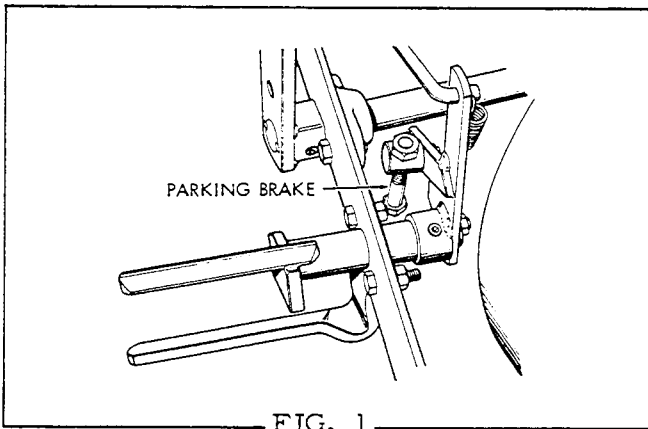

FIG. 1
- (2) Front Spindles - (Fig. 1)
Depress foot pedal until brake holds securely; flip capscrew toward rear for park. (See Fig. 1). Adjust length of screw to permit screw head to wedge on bottom of frame and hold lever in depressed position with brake applied.
With clutch and brake pedal in normal position (i. e., clutch engaged and brake released), adjust hex nuts (A) to give $\frac{3}{4}$ " clearance between rod guide assembly (B) and nuts. (See Fig. 1).
Position the set collar on the clutch rod to compress the spring about $\frac{5}{8}$ ". Then recheck and position the locknuts "A" to leave a spacing of about $\frac{3}{4}$ " between them and the end of the rod guide "B", Fig. 1. Check to see that when the pedal is operated, the spring is completely decompressed as the locknuts engage the end of the rod guide.